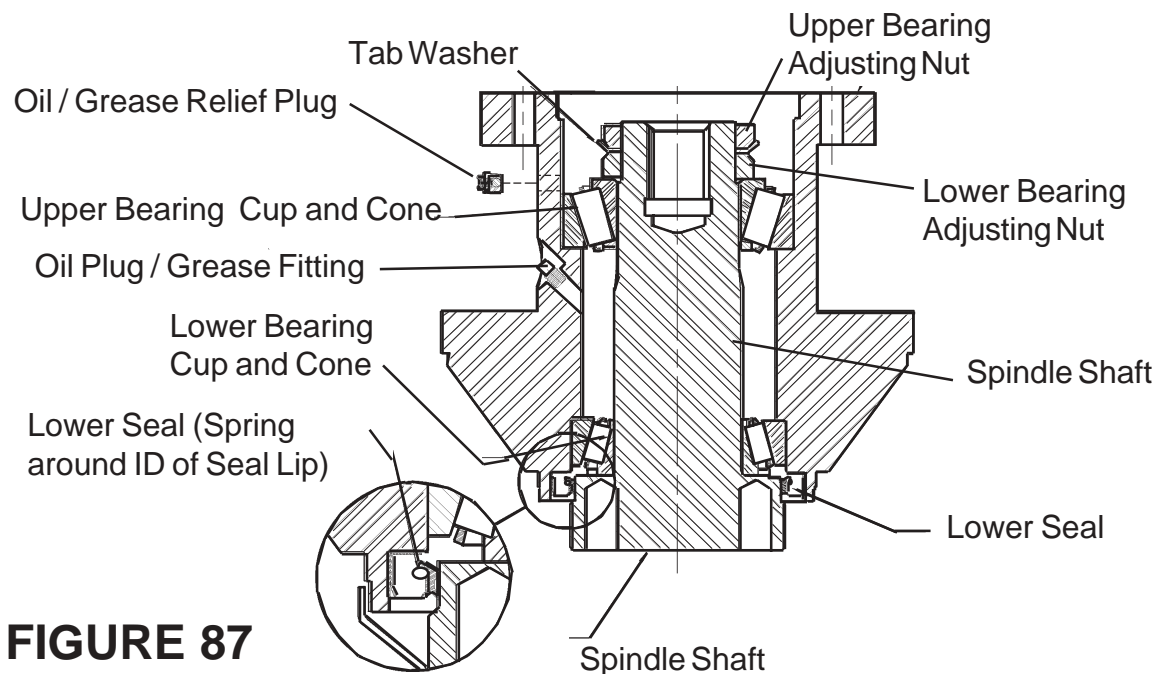

FIGURE 87
1. Spindle Dis-Assembly. (See Figure 87) The Spindle Shaft is held in with 2 notched round Nuts and a Tabbed Locking Washer, first use small Blunt Chisel to bend tab out away from Notch on Round Nut, Using Tabbed Socket (consult your local Tool supplier) un-screw outer Locking Nut, Lift tabbed Washer off Shaft, un-screw lower Bearing Adjusting Nut. It is best to replace Tabbed Washer with new one.